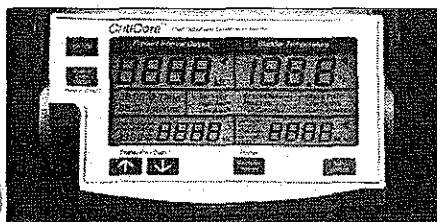

Figure 28
2. Turn the Monitor on while observing the display. The Monitor will first complete a self test cycle lasting approximately 4 seconds. During this test all of the segment groups and status indicators will be lit, and the display should resemble Figure 28.